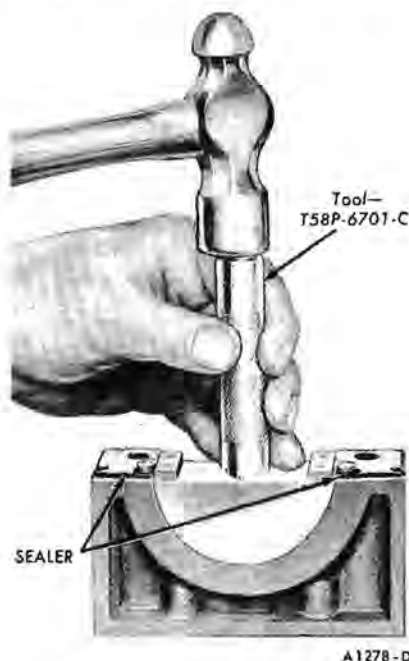

FIG. 41—Seal to Rear Bearing Cap Installation
17. Install a new rear journal oil seal in the rear main bearing cap (Fig. 41). After installation, cut the end of the seals flush.
18. Apply a thin coating of oil-resistant sealer to the rear main bearing cap at the rear of the top mating surface (Fig. 41). Do not apply sealer to the area forward of the side seal groove. Install the rear main bearing cap. Torque the cap bolts to specifications.